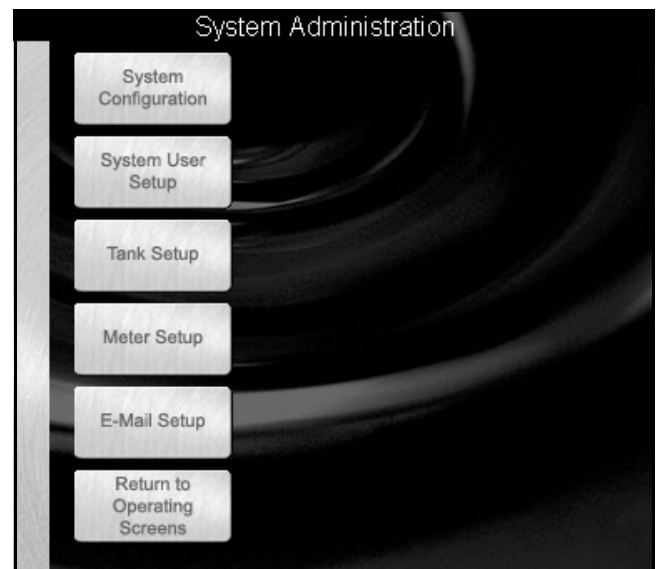

FIG. 60 System Administration Screen
1. Key in your user information and click **Submit**. For initial log on only, type in **matrix** (lowercase) for user name and **graco** (lowercase) for the password. Click **Submit**. Once the initial log on information is authenticated, the System Administration screen appears. See FIG. 60.